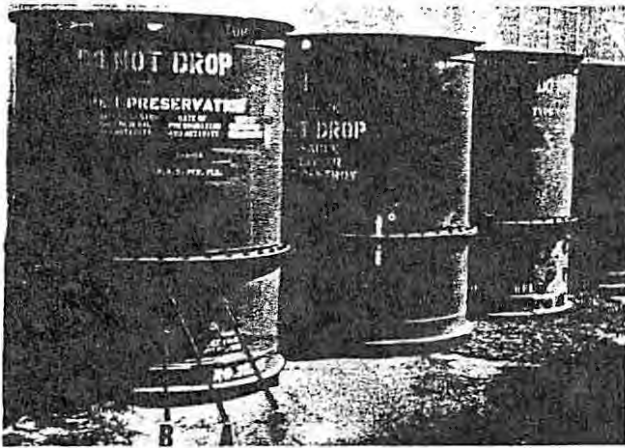

Figure 5-1. Metal Shipping Container
- a. Remove plug "A" and take out engine records found rolled up inside (see figure 5-1).